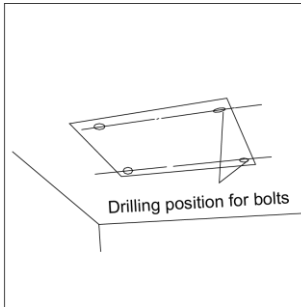

Fig4.3
- (1). Using the installation template, drill holes for bolts (four holes). (Fig. 4.3)